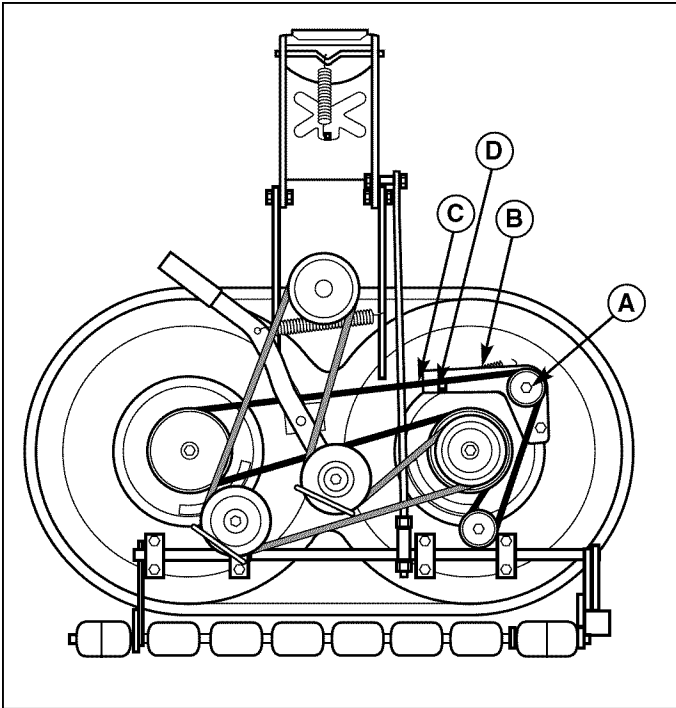
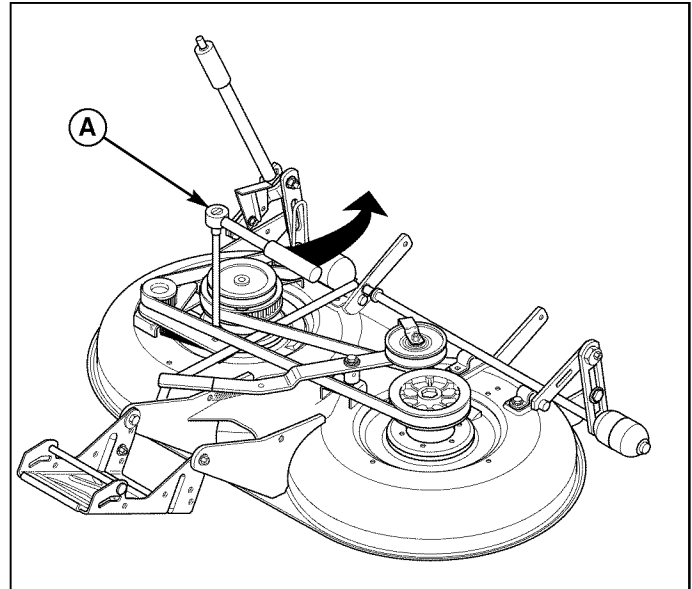
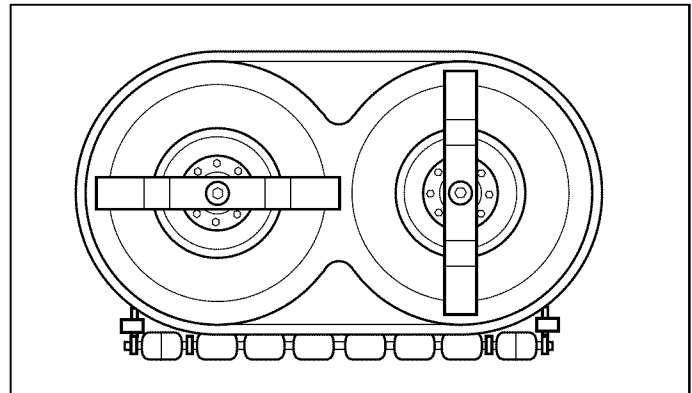

Figure 59. Mulching Deck (Belt Covers Removed)
Figure 60. Release Cogged Belt Tension
Figure 61. Mower Blade Timing
3. Loosen the idler assembly capscrew (A, Figure 59).
4. Using a ratchet (A, Figure 60), insert the end of the extension into the square hole (D, Figure 59) and move the idler assembly (B, Figure 59) to relieve tension on the belt (C).
5. Remove the belt (C).
6. Install a new belt (C) on the pulleys as shown. Releasing the idler assembly (A) allows the spring to automatically tension the cogged belt.
7. Tighten the idler assembly capscrew (A). Reinstall the belt covers.
8. Check that the blades are positioned perpendicular to each other (see Figure 61). If not, perform the mower blade timing procedure found in the Regular Maintenance section.